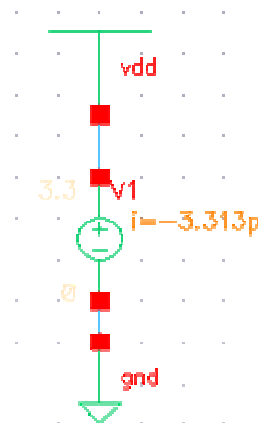

Figure 1.2 – Static Power Diispation of PMOS device in Inverter
- Using the formula, $P_{stat} = I_{stat} * V_{DD}$, we have 10.9pWatts of power drawn by the PMOS device (see figure 1.2